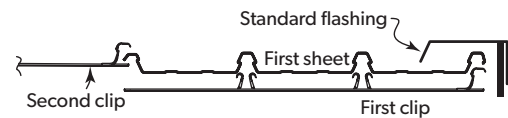

Figure 9.1.8
- 2 Position the first clips on each support by placing onto the support nearest the roof edge. (Figure 9.1.8)